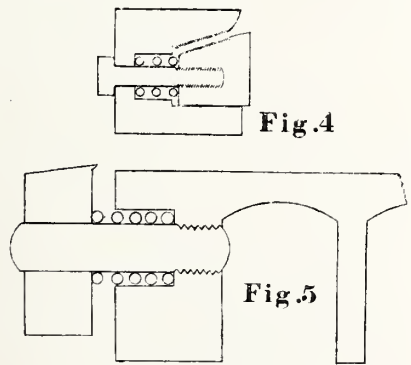

Fig. 5
In fig. 5 the brilliancy of four fresh and two faded pigments is compared. Antwerp blue is the purest and brightest, and as a blue is brighter than when faded. In its faded condition it becomes distinctly greener, by the lowering of its reflective power of blue and its increase in the powers to reflect the yellows and reds. Cobalt, though having a fair proportion of blue luminosity, has also a strong tone of red in it, which gives it the purple or violet cast. French ultramarine is almost as pure a blue as Antwerp blue, but is much lower in its tone. Indigo is
Fig. 5.—Diagram showing the comparative brilliancy of:—1. Indigo. 2. Indigo, faded. 3. Antwerp Blue. 4. Antwerp Blue, faded. 5. Cobalt. 6. French Ultramarine. (Adapted from Abney.)
Fig. 1 shews plan of bed one-tenth its actual size; the sections are one-fifth actual size. Fig. 2 shews a section through A B on plan, with thick plate ready for gripping. The back gripper (K on plan) is secured to a steel shaft on each side of the bed (see fig. 3 section through C D on plan); a gun-metal horned nut is fitted to one end of each shaft, and the gripper is fixed to each shaft with a pin (see fig. 3); when screwing up the nuts, they bring the gripper up to the edge of the bed, and hold the plate in position on that side. Two fixed grippers (L M on plan) are also supplied, one to the front, and one to the side of the bed; a movable gripper (N) is fitted to the other side (see fig. 5 section through E F on plan), this gripper is tightened up by one horned nut and forced back by two springs, in the same way as the back gripper.